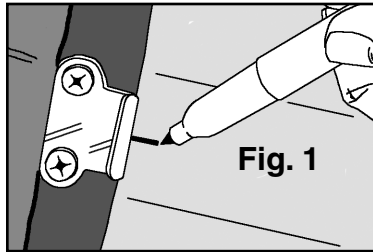

Fig. 1
Step 1: See figure 1. Hold the steel collar against the shoulder on your exit chute. Mark the center of ONE latch strike on the shoulder of the exit chute with a black marker pen.